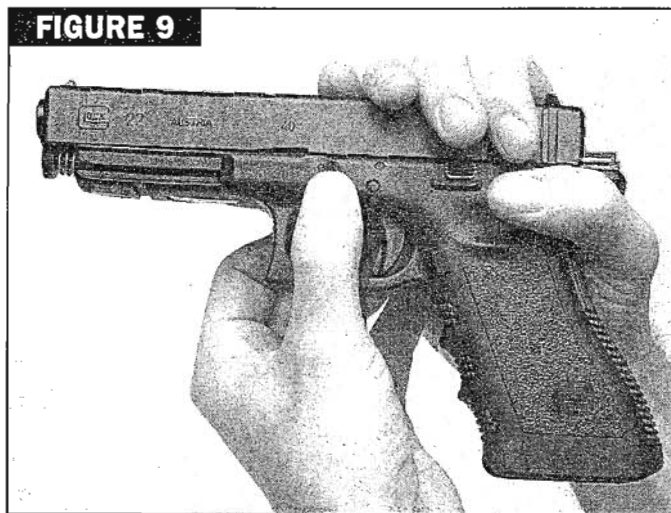

FIGURE 9
- Push the slide forward until it is fully separated from the receiver (Fig. 9).